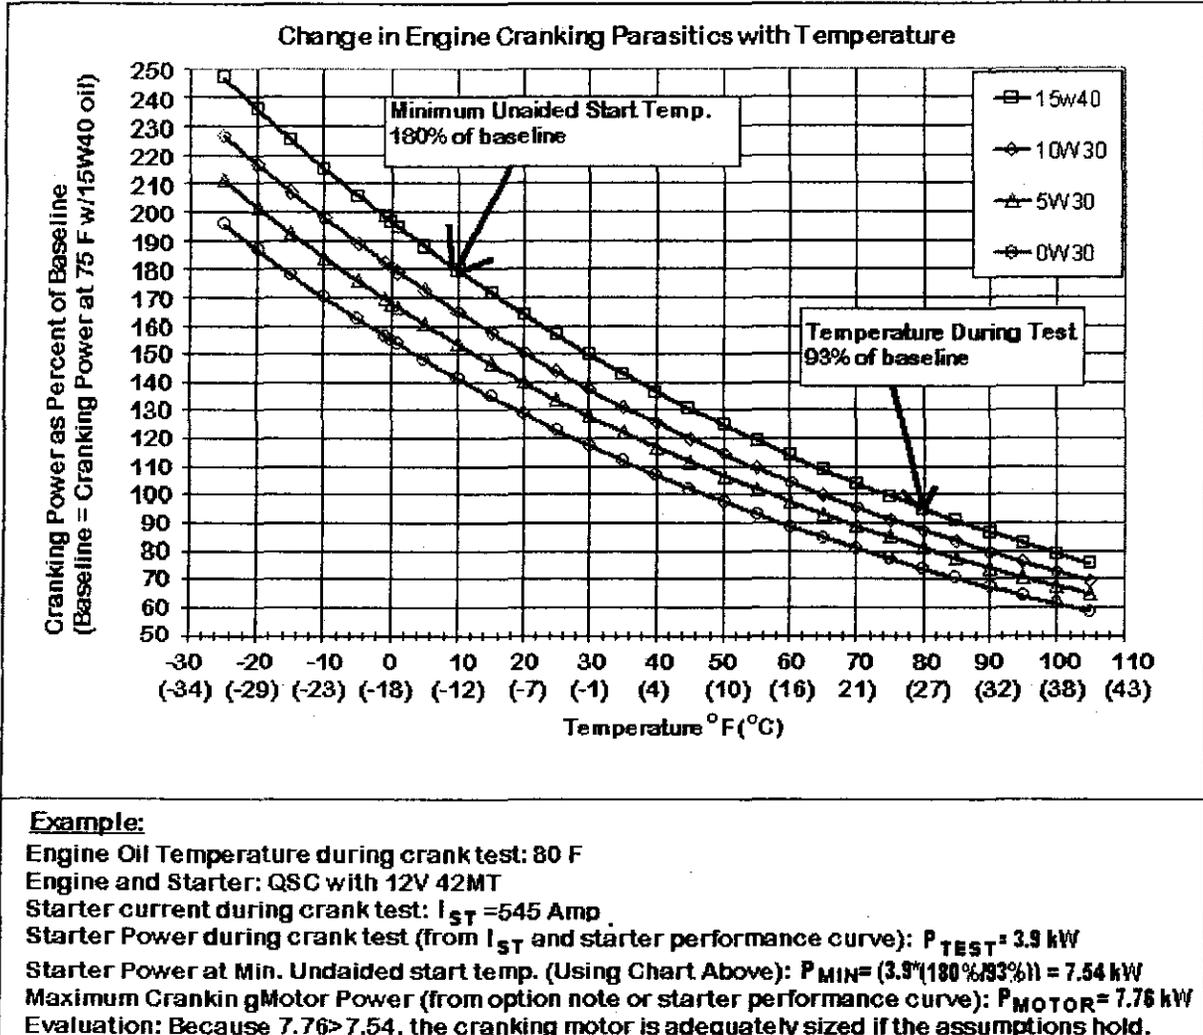

Figure 3: Chart for Power Correction to Minimum Unaided Start Temperature with Example
- Use Figure 3 to determine cranking power requirement at the minimum unaided start temperature for the engine.
Note: Questions relating to, and the evaluation of, cranking motor capacity (power margin) are based on the assumption that power train parasitics experience a similar increase in power requirement as the engine with respect to temperature. Machines with hydraulic systems may exhibit a more rapid increase in power requirements with respect to decreasing ambient temperatures. This is due to the rapid increase in viscosity of hydraulic oils as temperature decreases. Lower viscosity engine oil, hydraulic oil, and/or a higher capacity cranking motor should be used to improve engine cranking for lower ambients. Figure 3 should be used as a guideline only. Machines that operate continuously in "arctic" conditions should be designed and tested to ensure adequate engine starting.